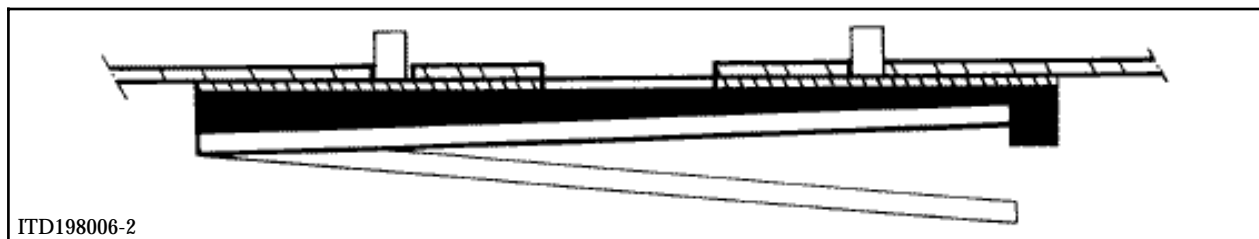

Fig. 2
- . On the new filter block the spring support is no longer in sections (**Fig. 2**).